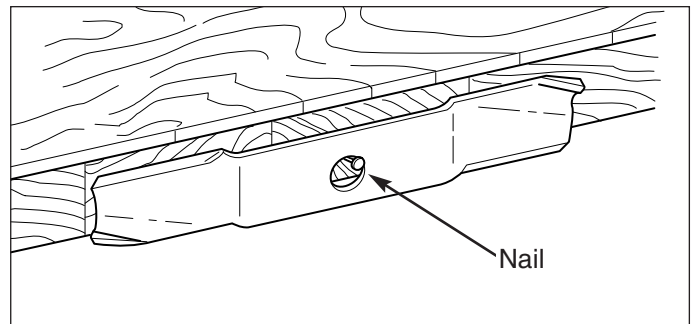

Figure 21. Balancing The Blade
4. Balance the blade as shown in Figure 21. Center the blade's hole on a nail lubricated with a drop of oil. A balanced blade will remain level.